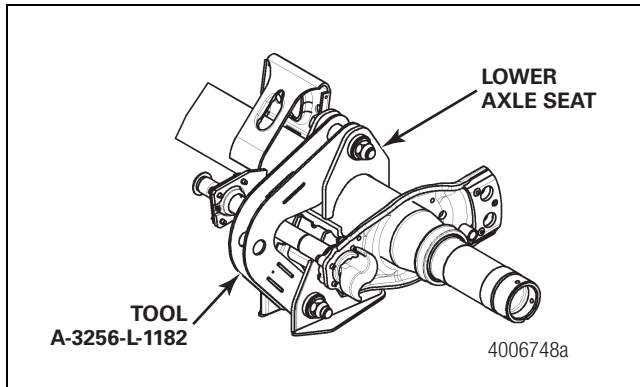

Figure 19
- Use tool A-3256-L-1182 to ensure the correct location to install the lower axle seat. Figure 19.